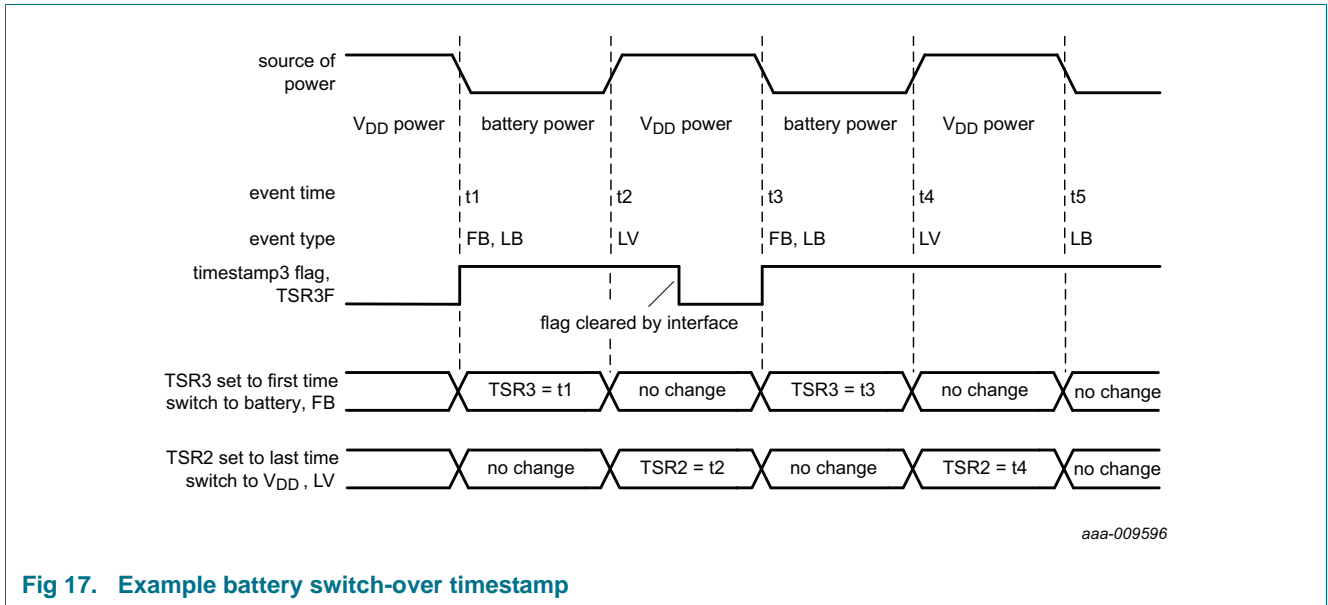
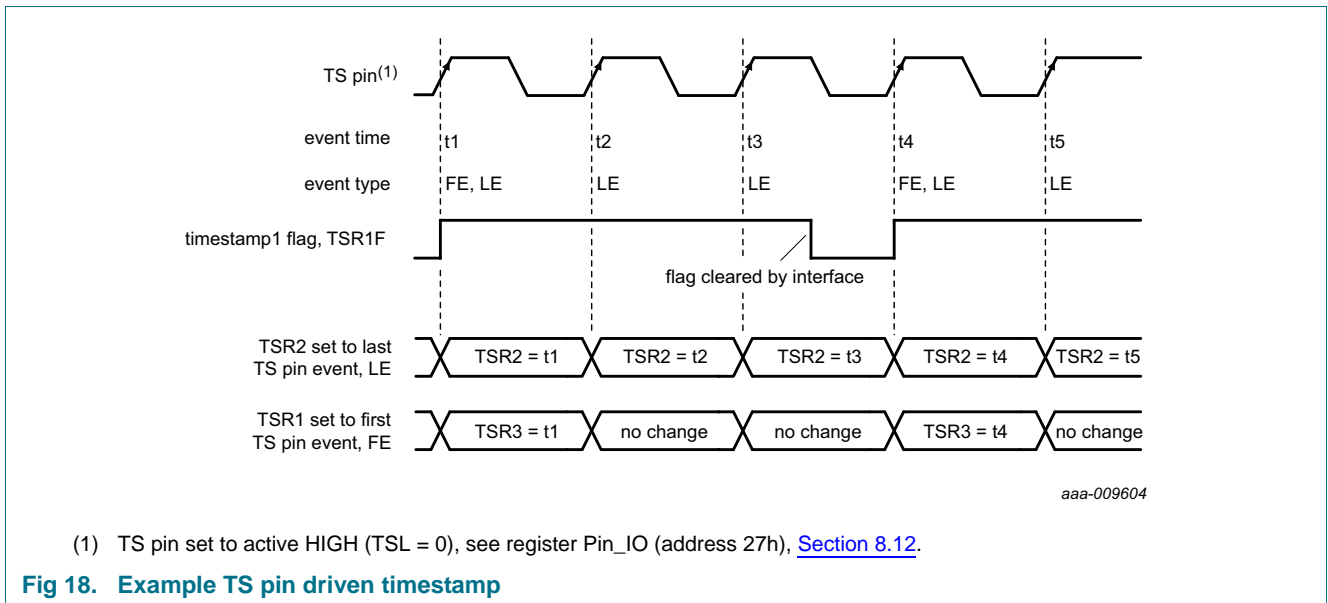

Fig 17. Example battery switch-over timestamp
Fig 18. Example TS pin driven timestamp
**First event** means that the time is only stored on the first event and not recorded for subsequent events. When the first event occurs, the associated timestamp flag is set. When the flag is cleared, then a new 'first' event is recorded. See Figure 17 and Figure 18.